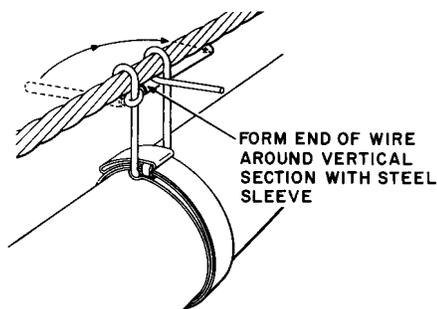

Fig. 18—Forming Wire Around the Vertical Section
(3) Complete the installation by wrapping the wire around the vertical section as shown in Fig. 18 and 19.